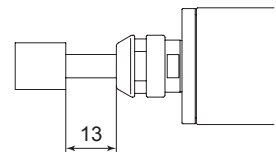

Fig. 20
- ① The proper surface speed for general grindstones is 10 - 30m / s.
- ② Do not exceed 13mm of overhang for mounted grindstones as shown in Fig. 20. If the overhang must exceed 13mm, reduce the air motor speed in accordance with Table. 4.
- ③ Dress the grindstone prior to use.
- ④ Do not use cutting tools with bent or broken shanks, cracks or excessive run-out.
- ⑤ For grinding, the maximum depth of cut should not exceed 0.01mm radially or axially. Reciprocate the tool several times after each pass to eliminate tool pressure.
- ⑥ Always operate cutting tools within the allowable recommended speed of the cutting tools. Use of a cutting tool outside of the allowable speed of the cutting tools could cause damage to the spindle and injury to the operator.
- ⑦ Keep the cutting tool shank and collet clean. If contaminants are left in the collet or collet nut, excessive run-out will cause damage to the cutting tool and or spindle.
- ⑧ Do not strike or disassemble the Air Motor Spindle.
- ⑨ Please set the cutting tools to minimize the overhang amount. 13mm is the maximum amount of overhang to maintain high accuracy and safety.